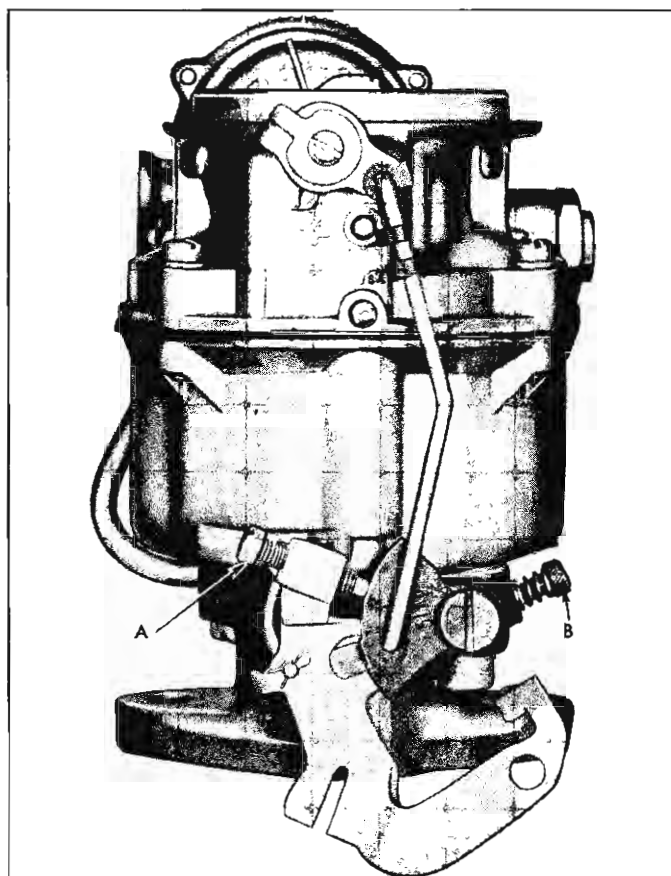

Fig. 35—Idle Speed and Mixture Adjustments—Six Cylinder Carburetor
1. Adjust idle speed screw “A” (fig. 35) to give following idle speeds:
2. Adjust idle mixture screw “B” (fig. 35) to give highest steady vacuum at specified idle. Vacuum gauge should read 17-21 inches.